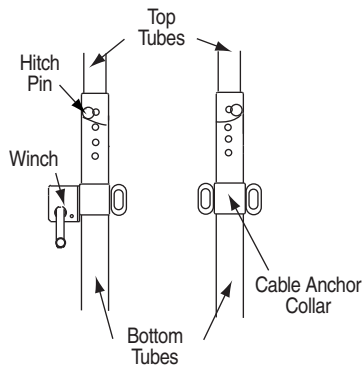

Figure 1
- ① Overtightening top cable can damage equipment and possibly cause injury.
- ② The center of the net will sag slightly. This is natural. Do not try to compensate by over-tightening top cable. (See "Net Height" information below.)
- ③ Make sure proper parts and accessories have been shipped. Do not attempt to install any accessories that are not recommended for your Power/Steel Volleyball System.
- ④ Do not attempt to operate the winch by using an electric drill; hand crank only.
- ① Attach winch assembly onto one 3 1/2" O.D. bottom tube. Locate approximately 23" from end with holes, and tighten screws with allen wrench (see Fig. 1).
- ② Attach cable anchor collar onto the other 3 1/2" O.D. bottom tube. Locate approximately 23" from end with holes, and tighten screws with allen wrench (see Fig. 1).